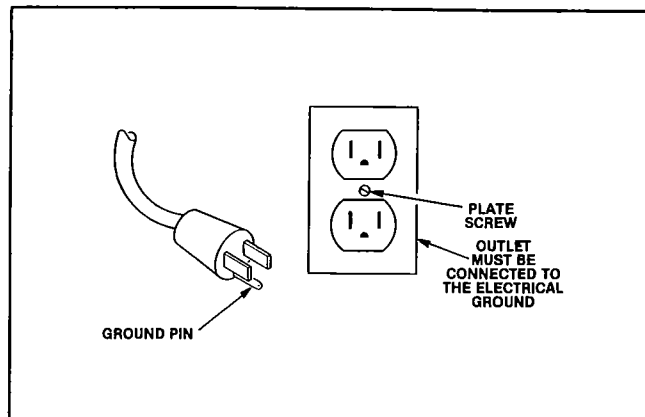

Figure 9
3. High mica. The mica insulation must be lower than the commutator bars. See figure 9.